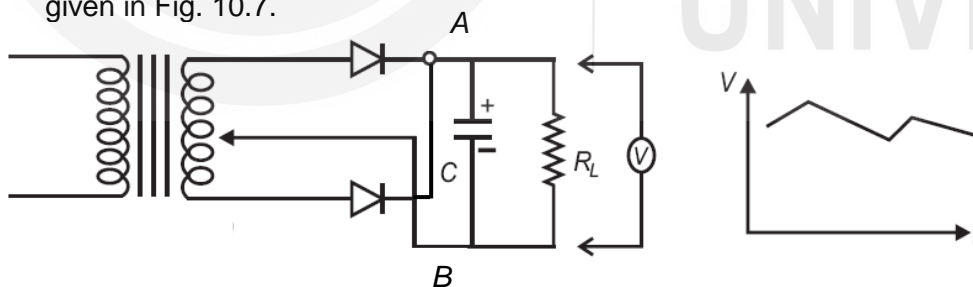

Fig. 10.7: Circuit diagram of a full-wave rectifier with capacitor filter.
3. Connect a capacitor of value ($1 \mu\text{F}$, 25 V) (electrolytic capacitor) in parallel with load resistance R_L as shown in Fig. 10.4b and connect it to the terminals A and B as shown in Fig. 10.4a. The complete circuit is given in Fig. 10.7.